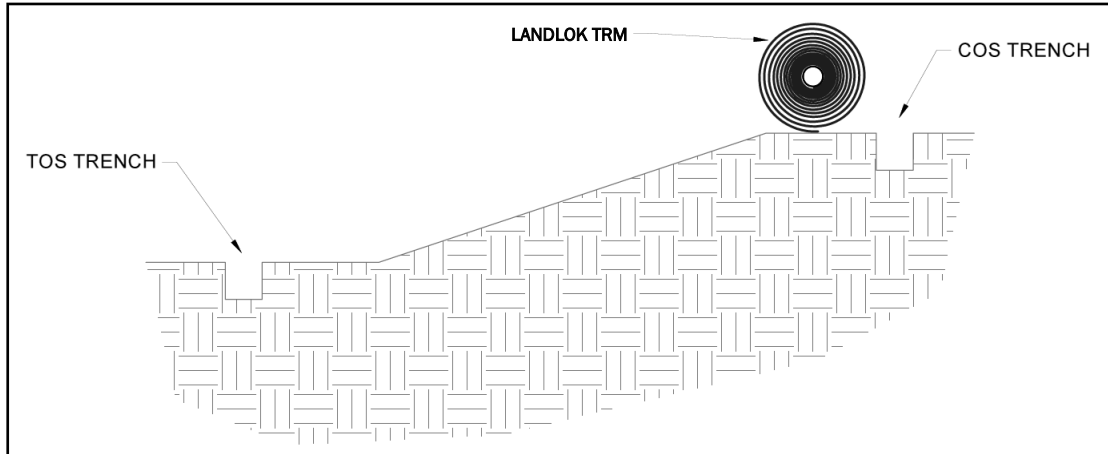

**Figure 2: Toe of Slope (TOS) Trench**
4. Excavate a Toe of Slope (TOS) trench 12 in x 12 in (300 mm x 300 mm) minimum at a minimum distance of 5 ft (1.5 m) from the toe of the slope. (Figure 2)